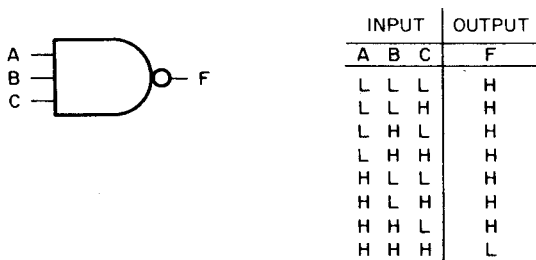

Figure 8-3 Symbol, NAND Function
- a. NAND—The symbol in Figure 8-3 represents the NAND function. The output (F) is low only when all inputs (A, B, and C) are high. NAND logic is the major gate configuration in the PDP-8 family.
(A, B, or C) are low. The NOR version for this function is identical to one version of the NAND function shown in Figure 8-3.